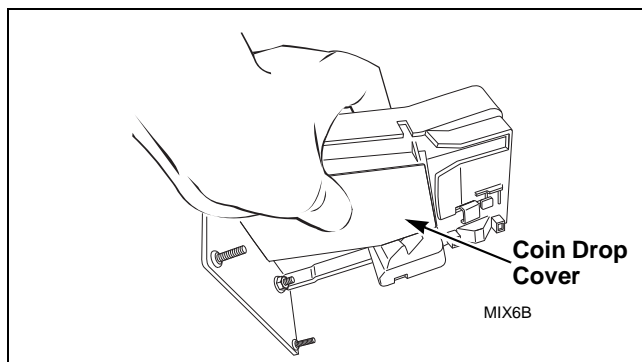

Figure 3
- (2) Manually hold down coin drop cover and insert coin. Refer to *Figure 3*.